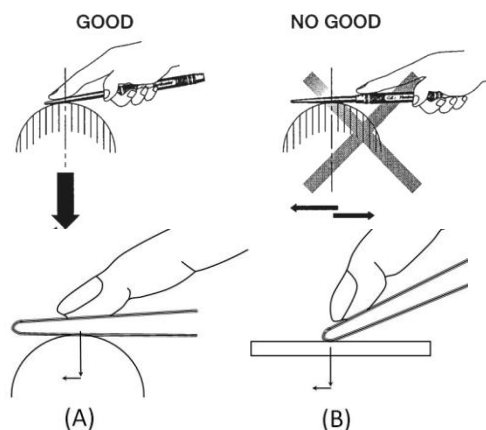

Fig.1 How to make contact between a touch measure and a specimen
When a touch measure, which consists of a large number of blades, is applied with force against a test specimen, the force is distributed over the ends of the blades that touch the specimen's surface. Therefore, contact pressure increases when fewer blades make contact with the surface. For this reason, to test a curved surface, the side face of the touch measure should be used as shown in Fig.1-(A), whereas the tip of the a touch measure should be used as in Fig.1-(B) to test a plane surface.
A force of about 5 kgf is required when pressing the touch measure against a test specimen. Apply the force by putting your forefinger at the point closest to the point of contact with the specimen and pressing it firmly against the specimen. As shown by the arrows in Fig.1-(A) and (B), first apply the force vertically, then push the touch measure slightly forward while continuing to apply pressure.
You must not use the touch measure in a way that scratches the specimen as if it were being filed away. That not only decreases the accuracy of the hardness measurement, but also shortens the life of the touch measure. (See Fig.1)